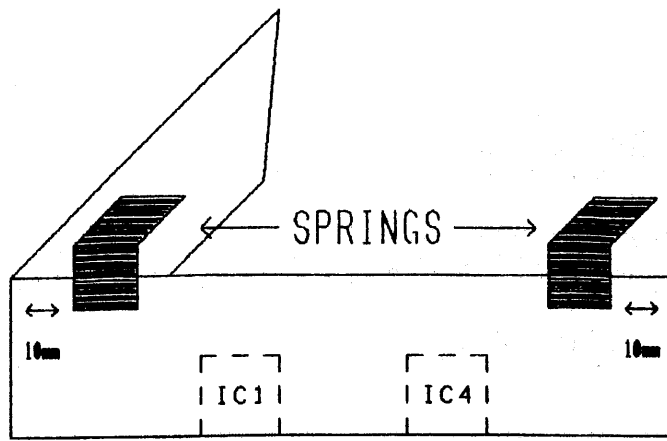

FIGURE 1
4. On the Compound unit, solder two springs (part number G02-0550-04) to the heat sink as shown in figure 1. The springs must be mounted high enough to make firm contact with the top cover when installed.